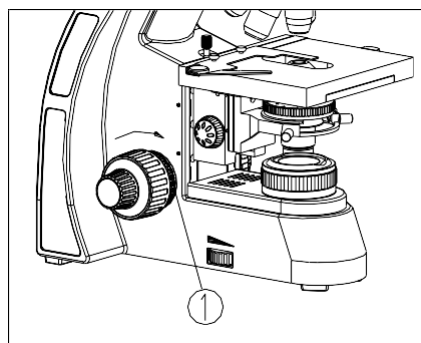

Fig. 15
If the handle is very heavy when focusing or the specimen leaves the focus plane after focusing or the stage declines itself, please adjust the tension adjustment ring① (see Fig. 15).